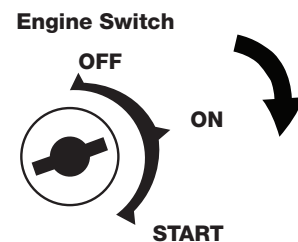

FIGURE 17
10.6 Turn on the input power switch on the welder. **FIGURE 17.**